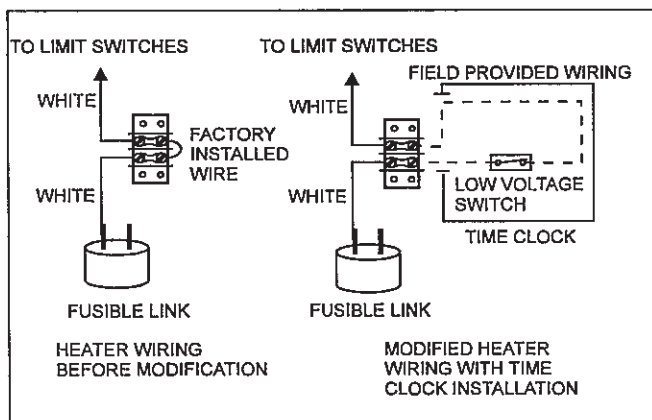

Figure 9. Time Clock Wiring.
To install a time clock auxiliary switch into the heater wires (see Figure 9):
2. Remove the factory installed wire between terminals 1 and 2 on the terminal strip (see Figure 9).